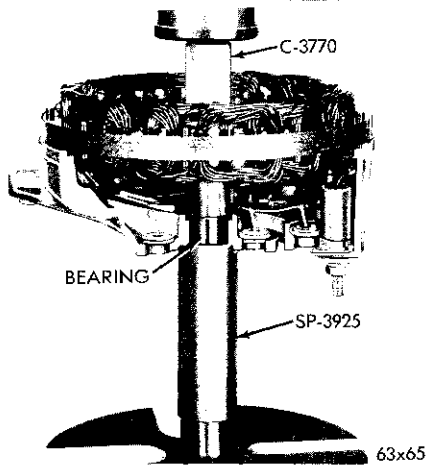

Fig. 29—Removing the Rectifier End Shield Bearing
- (13) The needle roller bearing in the rectifier end shield is a press fit. If it is necessary to remove the rectifier end frame needle bearing, protect the end shield by supporting the shield with Tool C-3925 when pressing the bearing out with Tool C-3770A (Fig. 29). Make sure the notches in the tool clear the raised section of the heat sink.